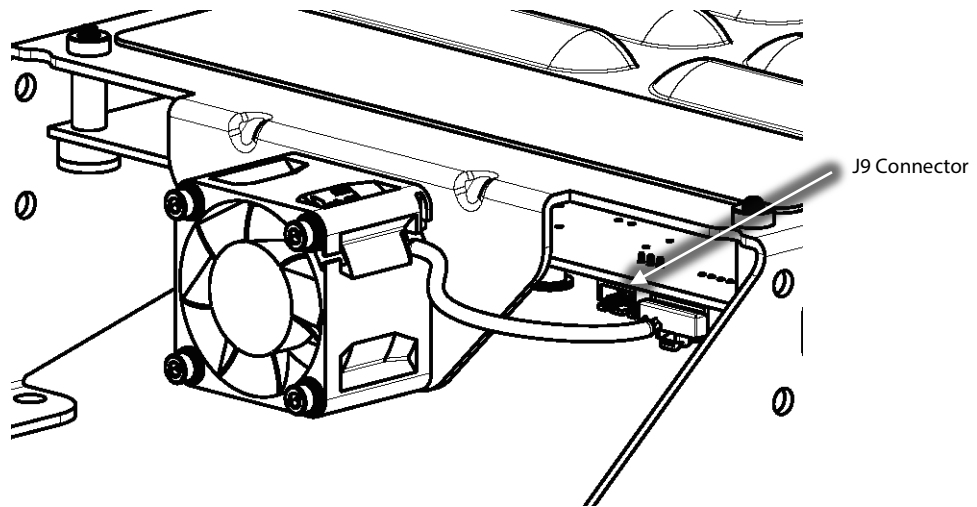

Figure 1 – Soft Start J9 Connector
2. Release the four (4) captive screws that secure the Mains Input Cover and remove the cover.
5. Release the nine (9) captive screws that secure the Top Cover and remove the cover, taking particular care not to touch ANY components underneath.
6. Using an appropriately rated volt meter, check the DC bus bars for voltage level. If the voltage is above 5VDC, wait five (5) minutes and recheck until 5VDC or below is achieved.
8. For F Series and later compressors, remove the Soft Start Temperature Harness. Refer to Figure 1 (Soft Start J9 Connector).